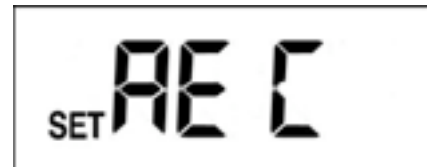

FIGURE 24
- Wait for 5 seconds, LCD occurs with REC, the recording starts (FIGURE 24).